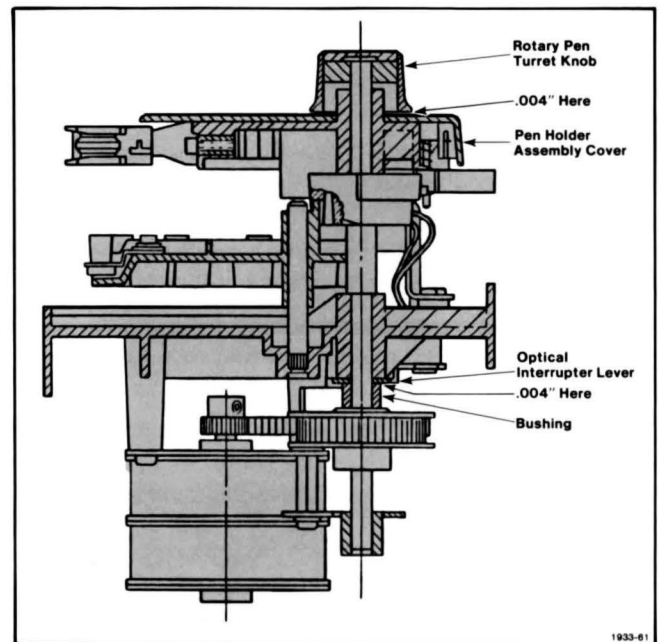

Figure 2-15. Setting Lower Bushing and Knob Clearances.
2. **Insert** the .004 inch feeler gauge between the bushing and the optical interrupter lever (see Figure 2-15).
2. **Slide** the .004 inch feeler gauge between the underside of the knob and the top of the pen holder assembly cover. The large opening in the feeler gauge surrounds the small ridge around the main shaft opening (see Figure 2-15).